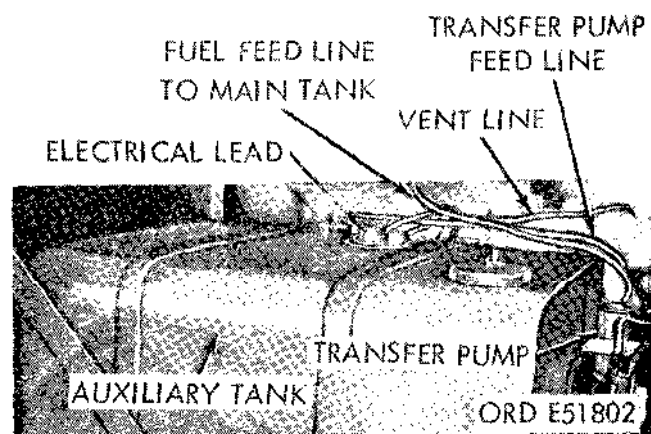

Figure 2-90. Auxiliary tank.
- (3) On dual tank models, disconnect the auxiliary tank lines as follows (fig. 2-90): Disconnect transfer pump feed line, vent line, electrical lead, and fuel feed line to main tank.
(2) Connect all auxiliary tank lines. This includes the fuel feed line, transfer pump feed line, vent line, and electrical lead (fig. 2-90).